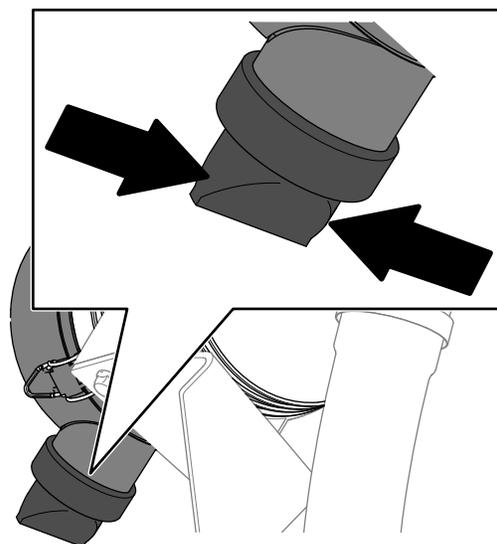

Figure 77
5. Squeeze the dust-ejector valve (Figure 77).